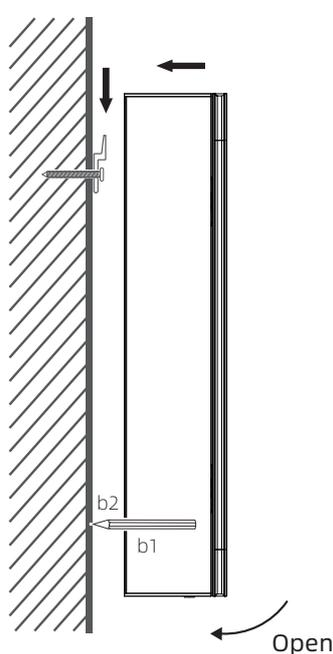
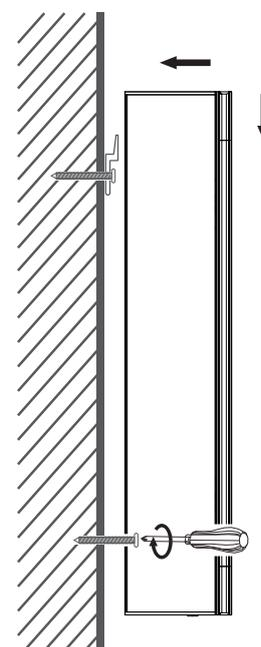

Fig. 3
Fig. 5
- Attach the mirror cabinet to the bar as shown in Fig. 3, open the cabinet door, and mark on the wall (b2)with a pencil through the backplate hole (b1).
- Repeat the operation as shown in Fig. 3 and mount the mirror cabinet to the bar, and then tighten the screws on the backplate (Fig. 5).